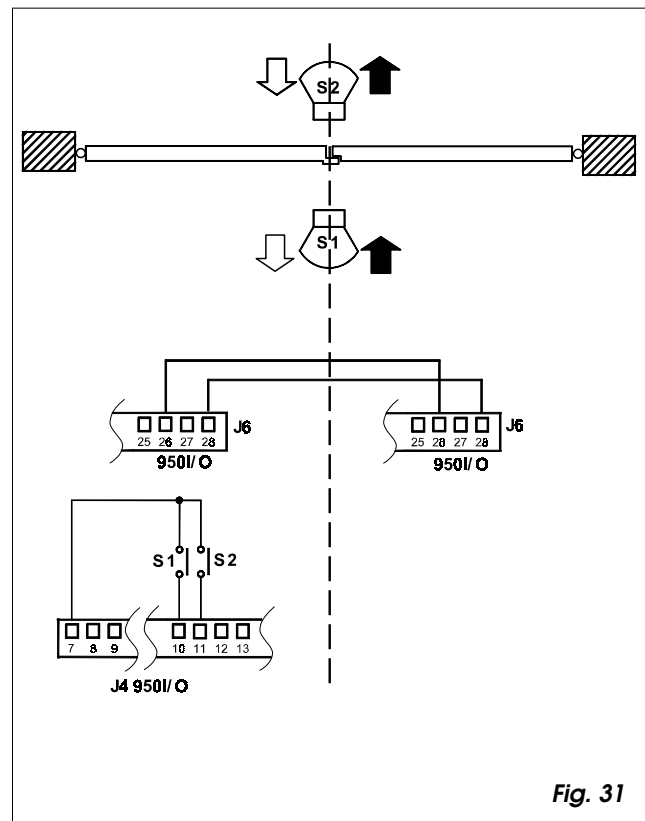

Fig. 31
- Make the connections between the 950I/O control unit of the two automated systems as shown in fig. 31.